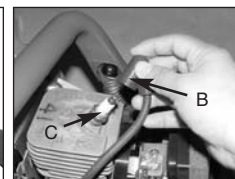

Abb. 21B
3. Disconnect the ignition cable (B) from the spark plug by pulling and twisting it simultaneously (Fig. 21B).